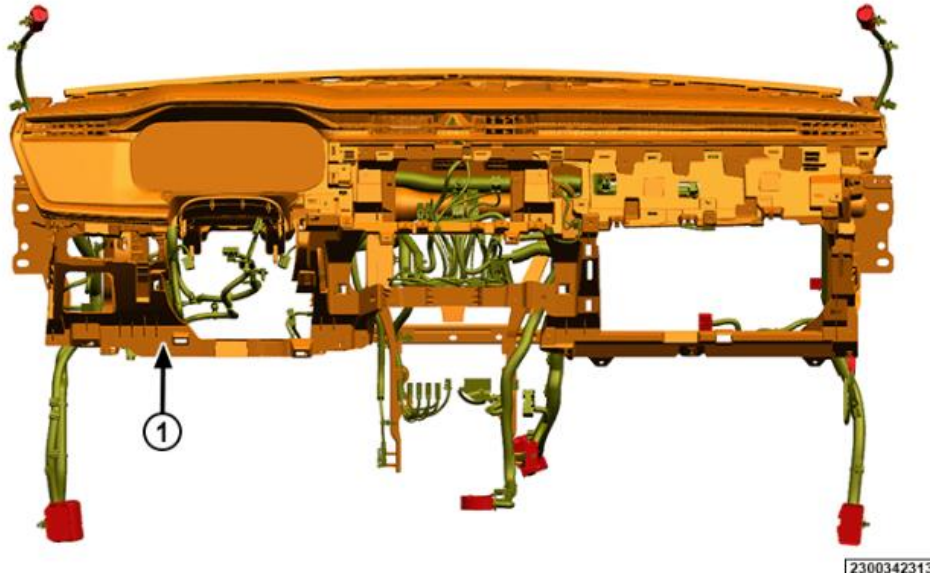

Figure 18 – Instrument Panel
37. With the help of an assistant, lift the instrument panel carrier away from the cowl panel. Verify all of the wire harness retainers are disconnected from the HVAC housing and remove the instrument panel carrier from the vehicle (Figure 18).
5. With the help of an assistant, position the instrument panel in the vehicle and install the left and right side guide pins to the sides of the cowl panel. Verify the routing of the wire harness to ensure that it does not get pinched (Figure 18).